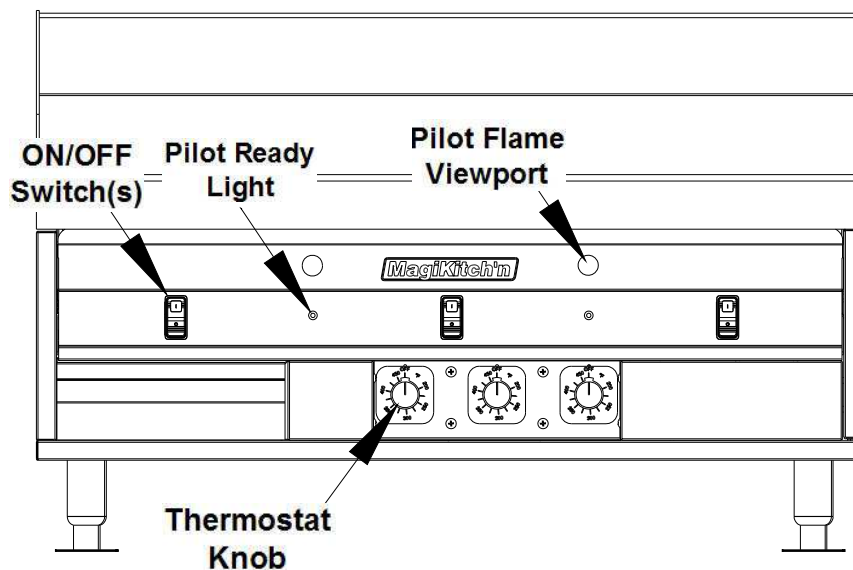

Figure 7
3. Turn the **RED "I/O"** switch to the “I” (ON) position for all desired Thermostats to be operated, See Figure 7. When the Pilot ready (Yellow) light illuminates, the pilot(s) are ready to operate the main burners.